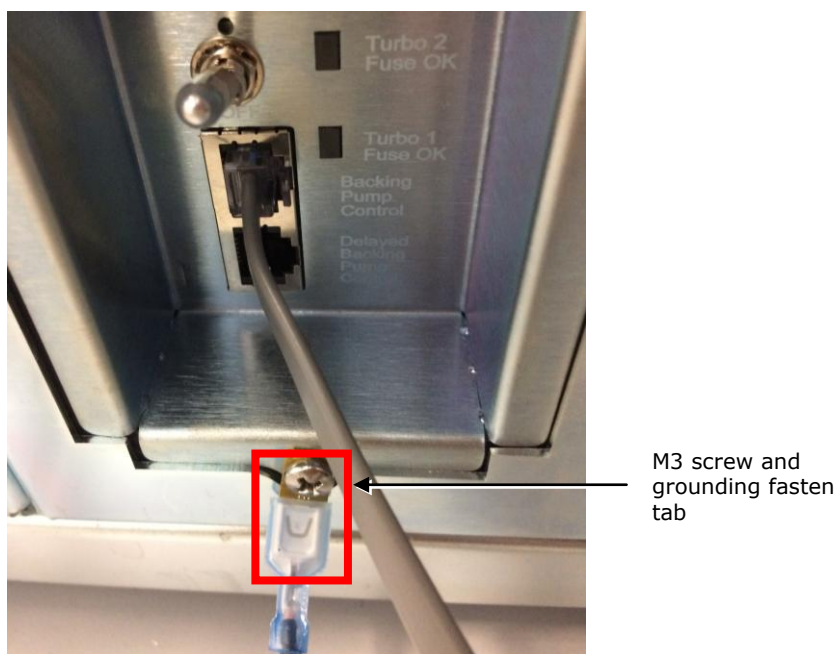

Figure 12 - Backing control PCB on the rear panel
WARNING: For EMC compliance reasons, the vacuum hose must be connected to the pump with the grounding fasten tab attached to the MS rear panel (Figure 12).
7. Using the M3 screw, fit the grounding fasten tab to the backing control PCB (Figure 12).